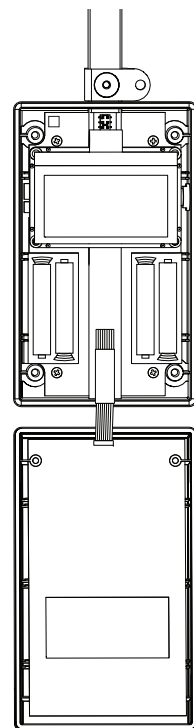

Figure 35 LP-80 battery locations
4. Carefully lift the cover and rotate along the bottom to lay the front cover down (Figure 35).